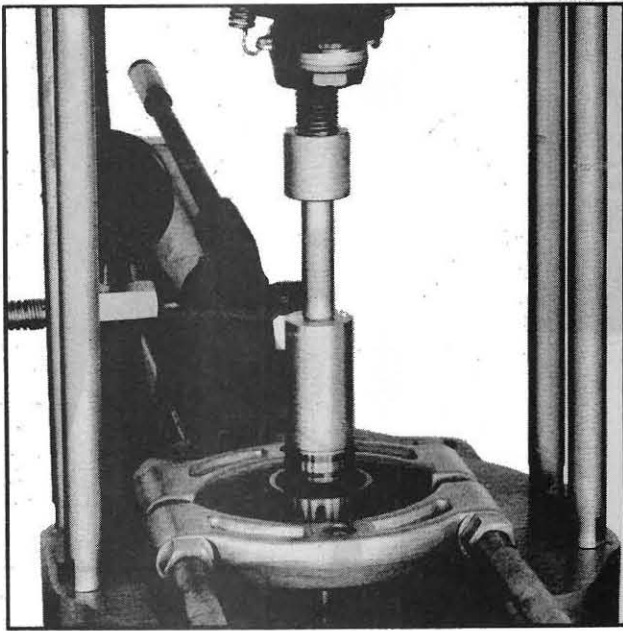

Fig. 284
4. To replace the bearing and sleeve on the shaft, place the shaft in the bearing splitter so that recessed side of the bearing splitter jaw contacts the shoulder on the shaft. Tighten it firmly in this position. Place the bearing and sleeve in position and use the special sleeve, SDT-115, as shown in Fig. 284. Press them on to the shaft until the bear-